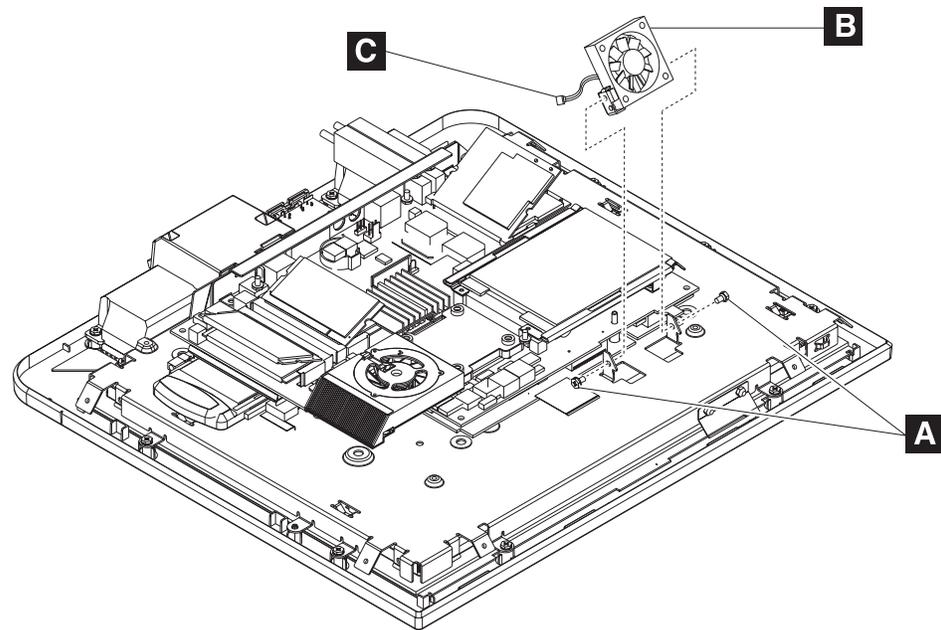

Figure 20. Removing the hard drive fan
2. Detach the fan connector (**C** in Figure 20) from the system board.
3. Using a Philips screwdriver, remove the two screws located on each side of the hard drive fan (**A** in Figure 20).
1. Unplug the fan connector, which is shown as **C** in Figure 20 on page 33.
2. Remove the hard drive fan as described in Figure 20 on page 33.